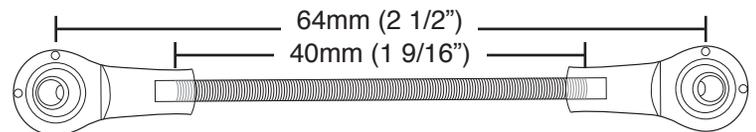

fig. 4
- Trim the threaded rod that comes with the 3H linkage height sensor pack to 40mm (1 9/16") (Fig. 4). The linkage assembly will be 64mm (2 1/2") from eye to eye. The linkage must have a minimum of five threads of engagement on both ends.